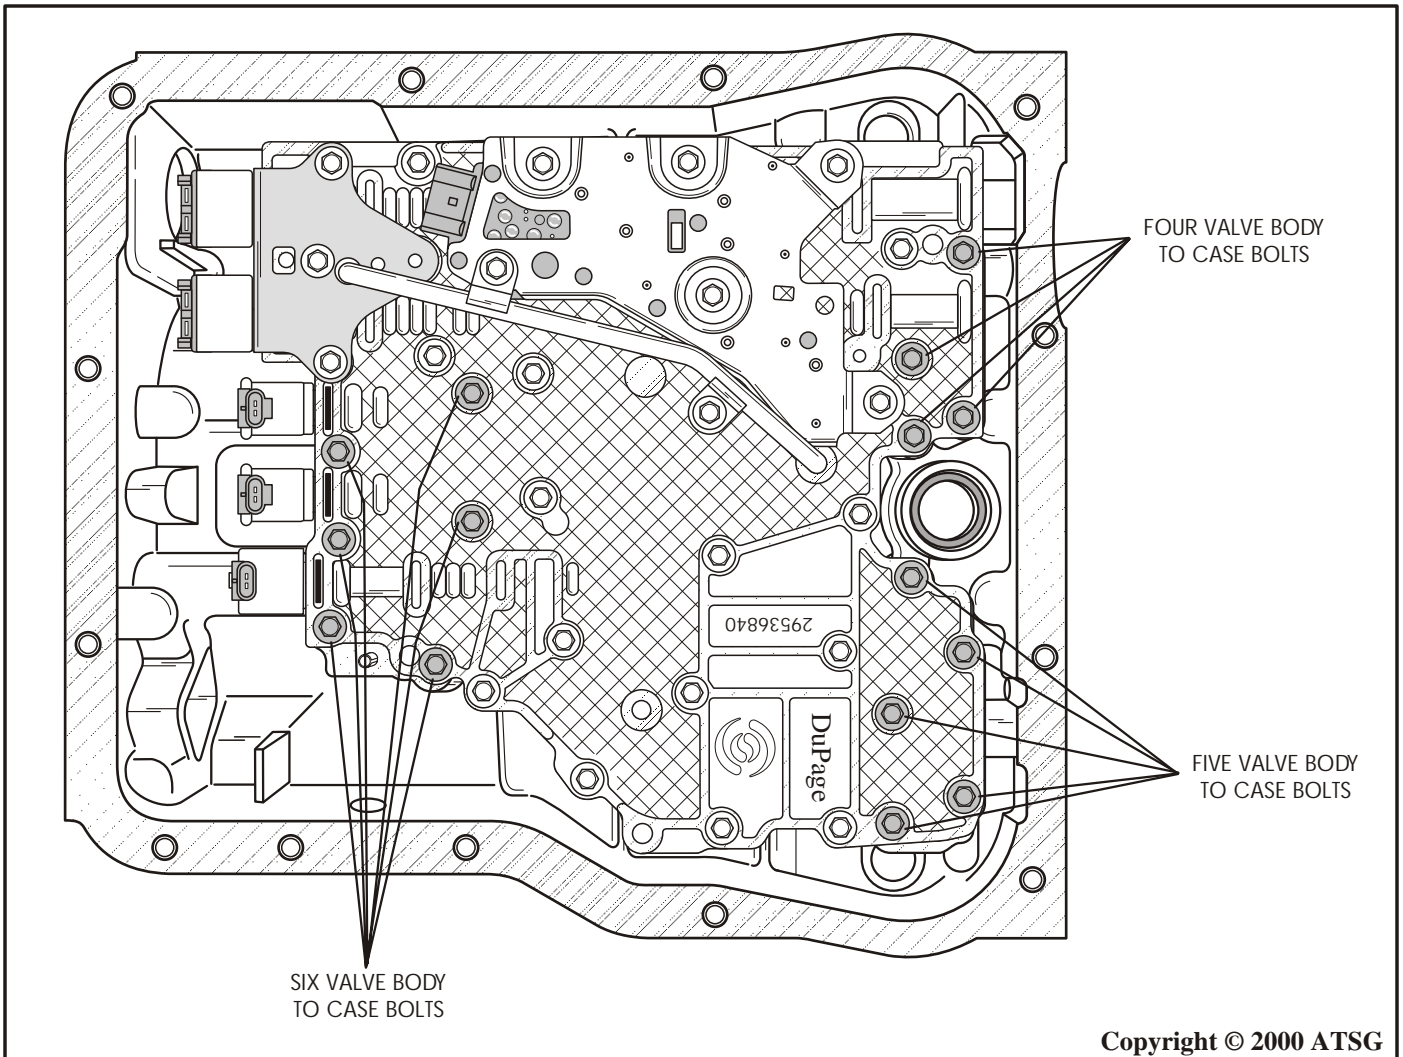

Figure 50
16. Remove the 15 valve body to case retaining bolts, using an 8mm socket (See Figure 50).
Note: Remove "Only" the valve body to case bolts that are shaded as shown in Figure 50.